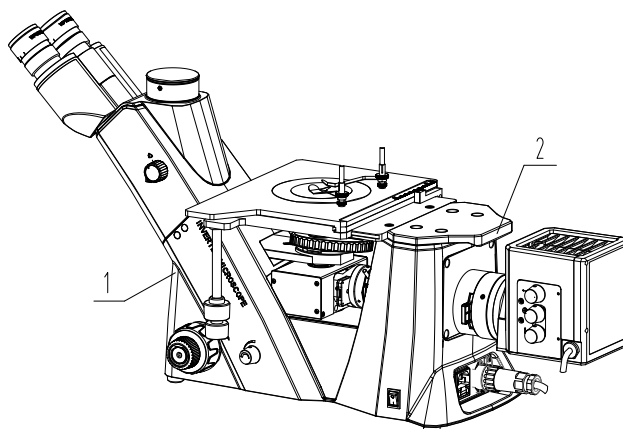

Figure-2 Carrying
- Following the **Figure-2** step to move the instrument, make sure the sample is taken away. Use one hand holding ① position ,the other hand holding ② position.
5. Please follow Figure-2 to carry microscope